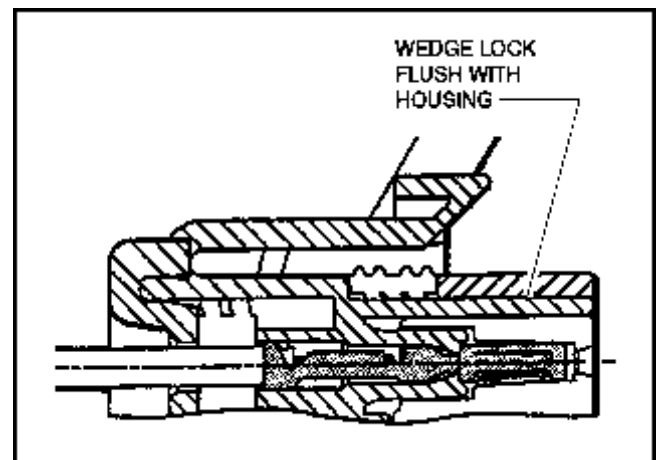

Figure 7-9. Connector Assembly Figure 4
4. Slide wedge lock into housing until flush with housing (See Figure 7-9.).